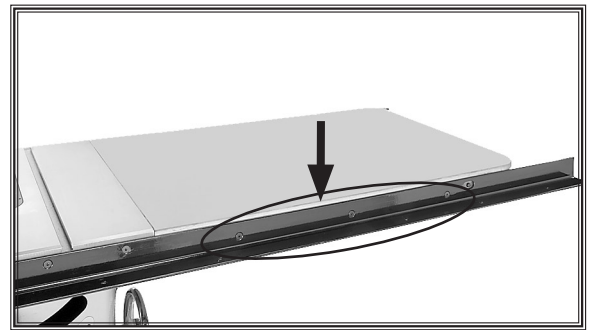

Figure 16. Front rail/table fastener locations.
5. While an assistant holds the extension table, fasten the 93" front rail to the extension table with three M8-1.25 x 25 flat head screws, flat washers and hex nuts (**Figure 16**). Finger tighten for now.
7. Align the table and extension table with a straight-edge (**Figure 18**), then tighten the fasteners in **Figure 16** with a 5mm hex wrench and 13mm wrench.